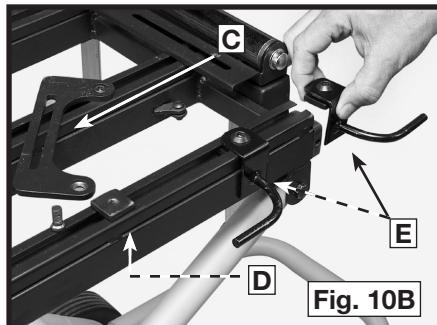
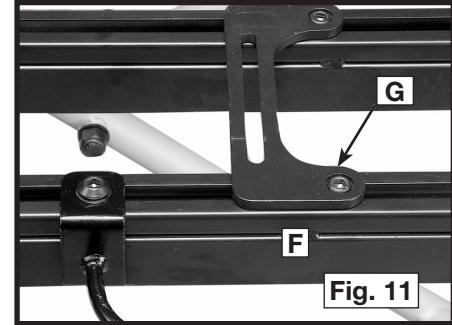

Fig. 10B
Fig. 11
2. Slide the moveable saw connector (C) Fig. 10B out of the shelf.
3. Slide the cord wraps (E) Fig. 10B on the shelf (D). Place the cord wraps in opposite positions (Fig. 10B) to hold the cord securely.
5. Replace the saw connector (D) Fig. 10B in the shelf (F) Fig. 11 back in its original position.